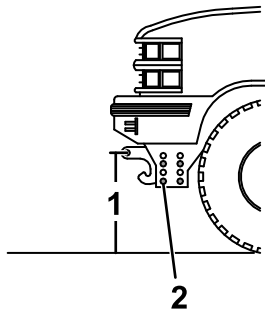

Figure 30
1. Measure the distance from the ground to the coupler spring-pin holes on the undercarriage pushbeam (Figure 30). The measurement should match the height listed for your plow in Specifications \(page 22\).
2. If the pushbeam is not at the correct height, remove the fasteners securing the pushbeam to the undercarriage (Figure 30).